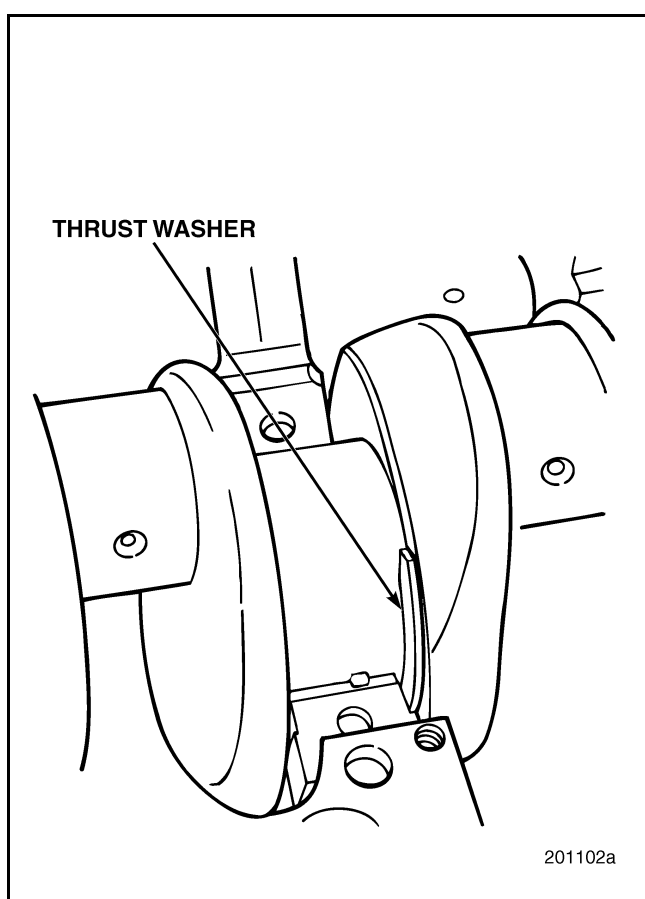

Figure 236 — Crankshaft Thrust Washer Installation
9. Place the upper thrust washer sections in position in the cylinder block at the center bearing, No. 4, location as shown in Figure 236. The steel side of the thrust washer goes toward the block, the copper or aluminum-faced side goes toward the crankshaft (this applies to upper and lower thrust washer sections). Oil reservoir grooves are cut into the aluminum-faced side, as well as tip-face reliefs.